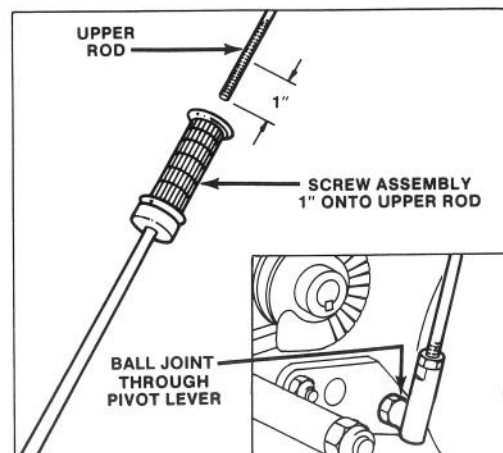

Figure 3
2. Screw hand grip and lower rod assembly about one inch onto upper rod (Fig. 3). Insert ball joint at end of rod through the pivot lever (Fig. 3 inset), but do not install lock nut.
4. Install ball joint through the pivot lever (Fig. 3 inset) and install lock nut. Tighten nut securely.